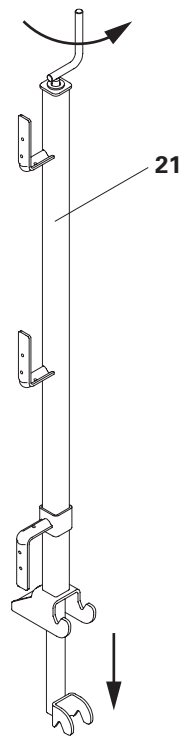

Fig. A7.04
1. Pre-adjust Guardrail Post GKB (21) with the crank.
2. Place the Guardrail Post GKB (21) in the reinforcement stirrup and tension with the crank.
3. Position guardrail boards (22) and secure, e.g. by means of wire pins or wood screws. (Fig. A7.04 + A7.05)